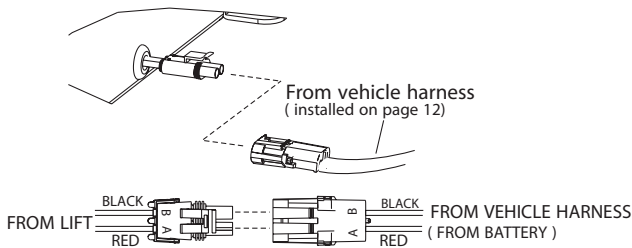

Figure 4-50
6. Connect to vehicle harness. **See Figure 4-50.**